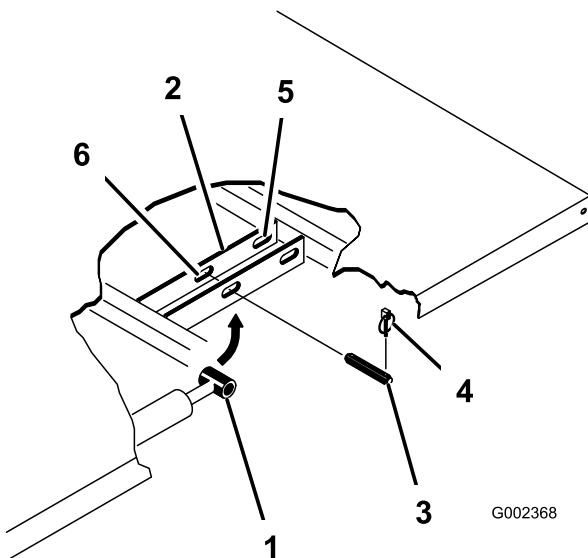

Figure 27
3. Remove the lynch pins from the outer ends of the cylinder rod clevis pins (Figure 27).